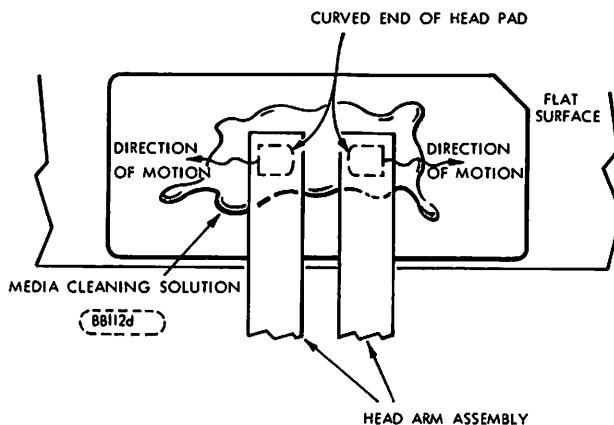

FIGURE 6-13. HEAD CLEANING MOTION
Refer to Figure 6-13 if head cleaning is required and perform the following procedure. Use care not to damage any part of the head/arm assembly.
3. Place a new, unpunched, clean computer card with the back side up (printing down) on the clean flat working surface as shown in Figure 6-13.
5. Very carefully place the head pad flying surface on moistened area and move head pad from moistened area to dry area in a zig-zag motion as shown in Figure 6-13. Move head in a direction away from curved end of head pad. If it is moved in the opposite direction the sharp edge of the curved end will cut into the computer card and prevent movement and proper cleaning.